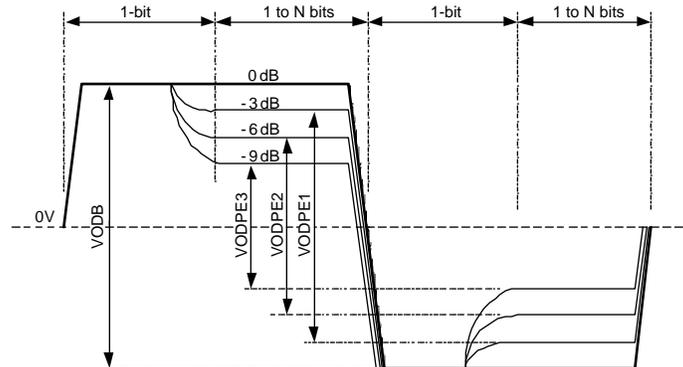

Figure 9. Driver Pre-Emphasis Differential Waveform (Showing All 4 Pre-Emphasis Steps)
The output driver has pre-emphasis (driver-side equalization) to compensate the transmission loss of the backplane that it is driving. The driver conditions the output signal such that the lower frequency and higher frequency pulses reach approximately the same amplitude at the end of the backplane and minimize the deterministic jitter caused by the amplitude disparity. The DS25MB100 provides four steps of user-selectable pre-emphasis ranging from 0, -3, -6 and -9 dB to handle different lengths of backplane. Figure 9 shows a driver pre-emphasis waveform. The pre-emphasis duration is 188 ps nominal, corresponding to 0.47 unit intervals (UI) at 2.5 Gbps. The pre-emphasis levels of switch-side and line-side can be individually programmed.